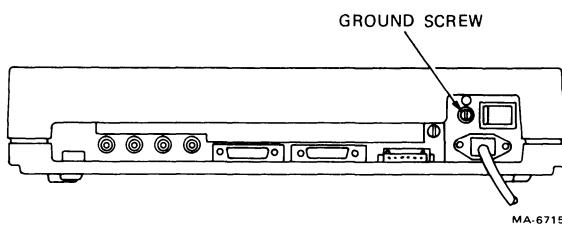

Figure 6-5 VK100 Terminal (Rear View)
3. From the rear of the terminal, remove the grounding screw securing the connector bracket to the power supply chassis (Figure 6-5). The screw may be removed with either a nutdriver or a blade-type screwdriver.